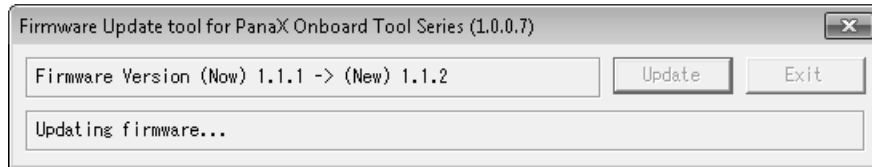

Figure 2.4.5 Firmware Update Tool Updating Screen
4. When <Update> is clicked, the display changes as shown in Figure 2.4.5. Wait until the firmware update has been completed.